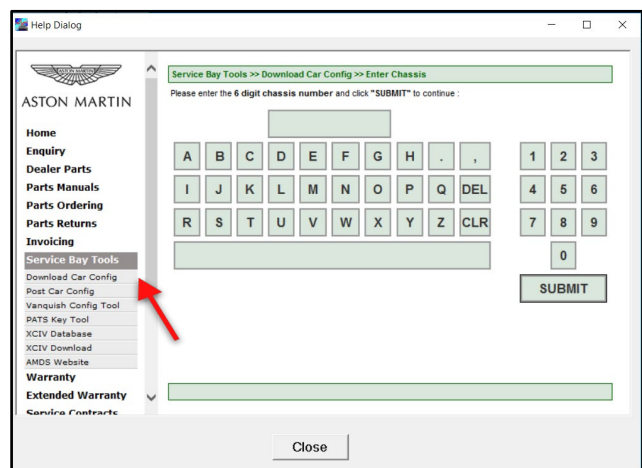

Figure 4
8. Click “Service Bay Tools” and “Download Car Config” (refer to Figure 4).